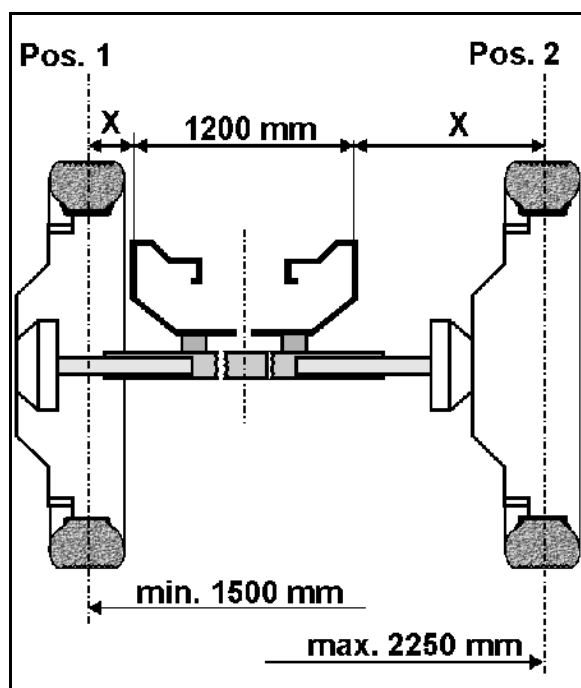

Fig. 100
- Stepless from 1,500 mm to 1,960 mm for wheel installation as per position 1 (Fig. 100).
- Stepless from 1,700 mm to 2,250 mm for wheel installation as per position 2 (Fig. 100).
5. Release the clamping screws (Fig. 100/1).